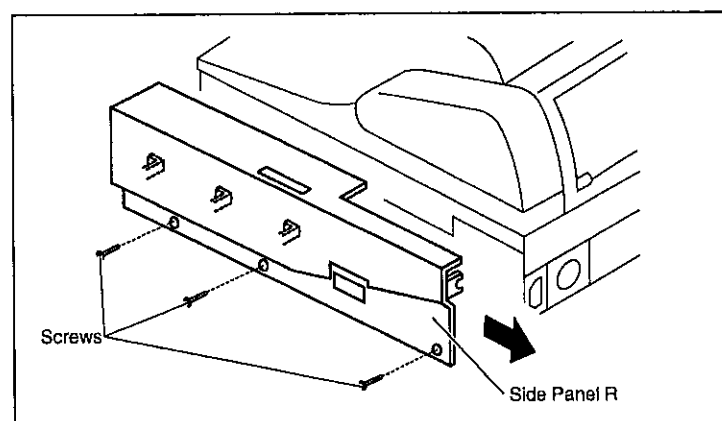

Fig. 8-5
- 3) Slide the Side Panel R backward as shown in Fig. 8-5.